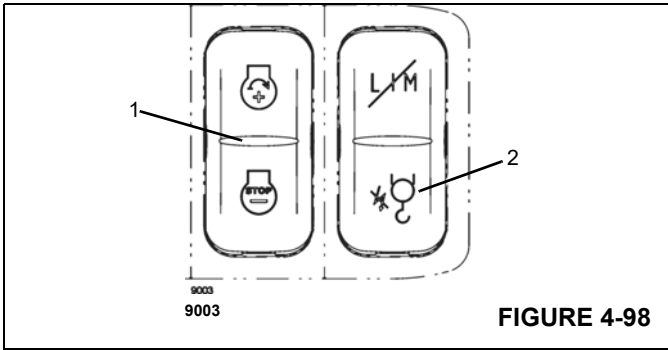

FIGURE 4-98
You can set the desired engine speed (idling speed) with button located on the overhead control panel (1), (Figure 4-98), refer to *Boom Extension Assist*, page 3-125.
Press the button located on the overhead control panel (2), (Figure 4-98) and keep it depressed – the anti-two block switch is overridden.